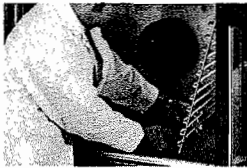

Fig. 7
3. Remove both *left and right rack guides* by lifting them straight up and tilting the bottom of the guides toward the oven center and pulling out, as shown in Fig. 7.
1. Return the *left and right rack guides* by inserting them in support brackets (reverse procedure in Figure 7).